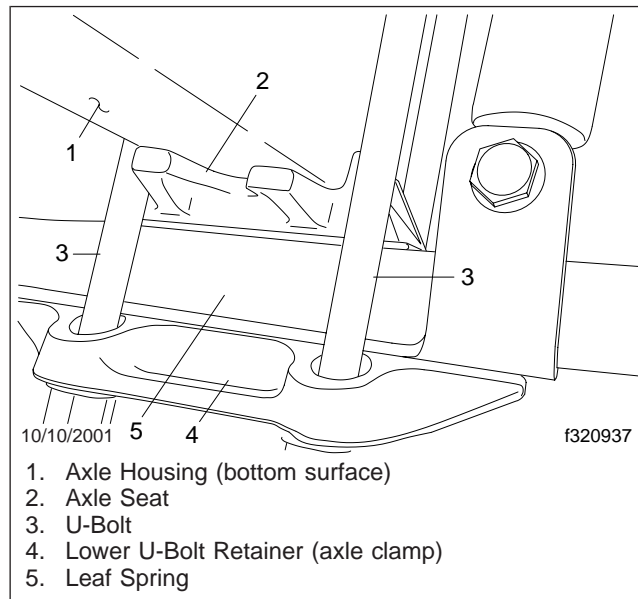

Fig. 4, Axle Seat Installation
5. Check that the axle seats are installed correctly. See Fig. 4. An axle seat installed backwards can cause a pronounced right-to-left air-spring bag height difference. Use PartsPro® module 431, EZWiring to see the engineering installation drawing of the axle seat.